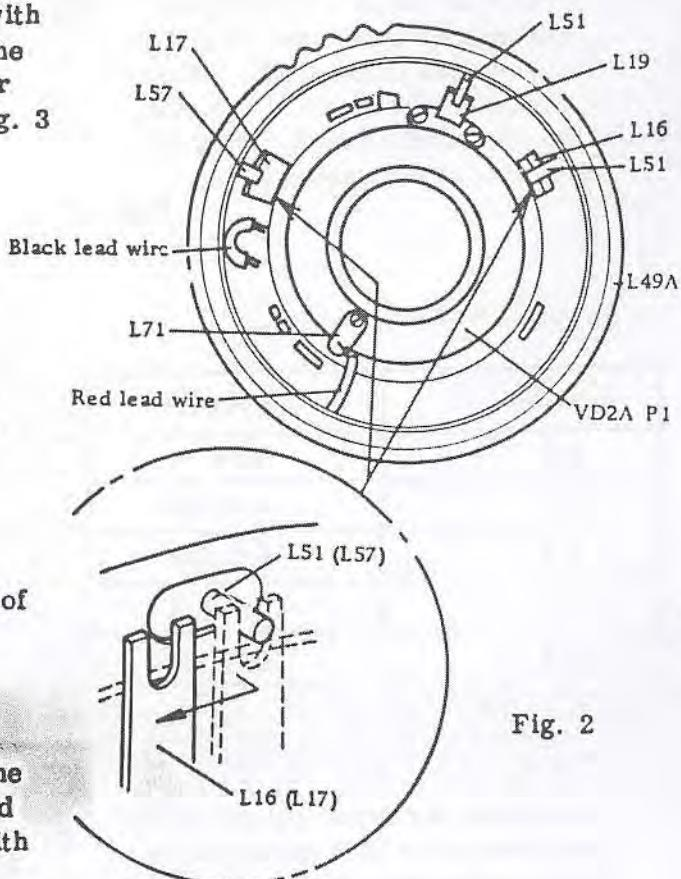

Fig. 2
C. The back color lead wire connected to the synchronizer is provided with vinyl tube insulator. Move it to one side, and unsolder. Unsolder and disconnect the red color lead wire from the lag plate (L71). Next, disconnect the diaphragm lever (L16) and M-X changeover lever (L17) from the connecting pins (L51) and (L57). Fig. 2
D. Remove the shutter fastening ring (L15) with the Tool (L11-TA1), and remove the shutter from the lens barrel carefully so that the shutter speed lever (L19) is not damaged. Fig. 2